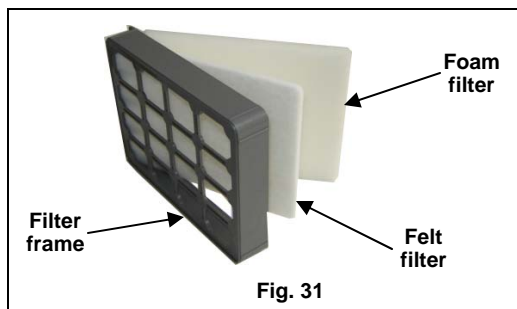

Fig. 31
5. Inside the filter frame are two (2) filters. Filter 1 is a foam filter and filter 2 is a felt filter. Both are washable and reusable for the lifetime of the vacuum (under normal household use.) (Fig. 31)